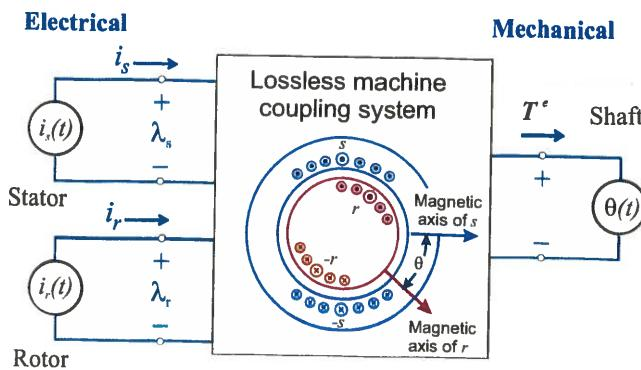
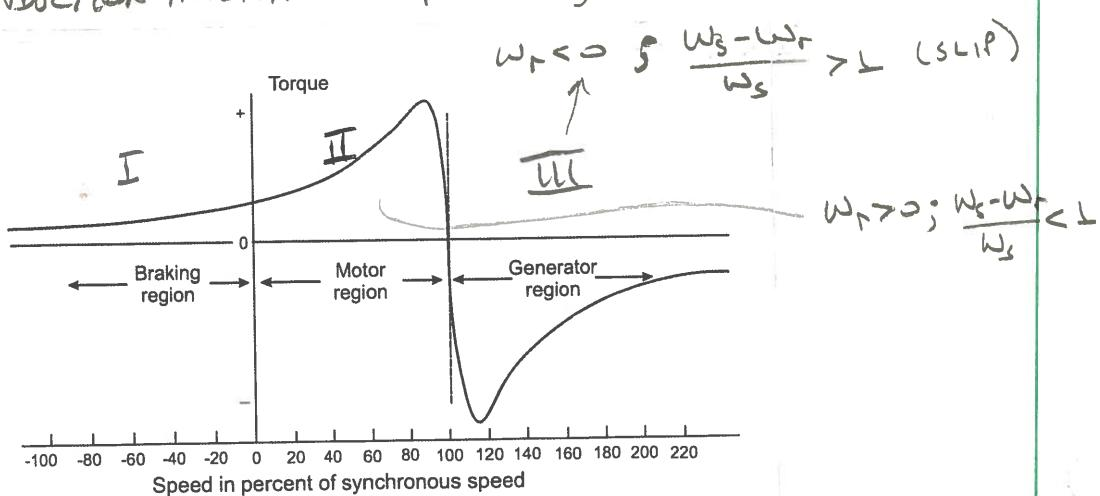

Figure 1: 3-Terminal EM Conversion System
Figure 2: Induction Machine Torque Speed Curve
1. Explain induction machine power flows using the 3-terminal electromechanical conversion diagram (Fig. 1), the machine conditions for average power conversion, and the induction machine torque speed curve (Fig. 2). Explain how Faraday's Law applies to induction machine operation. Note: machine includes generator, motor, and brake operation.
## MOTOR REGION (II on FIG 2.)